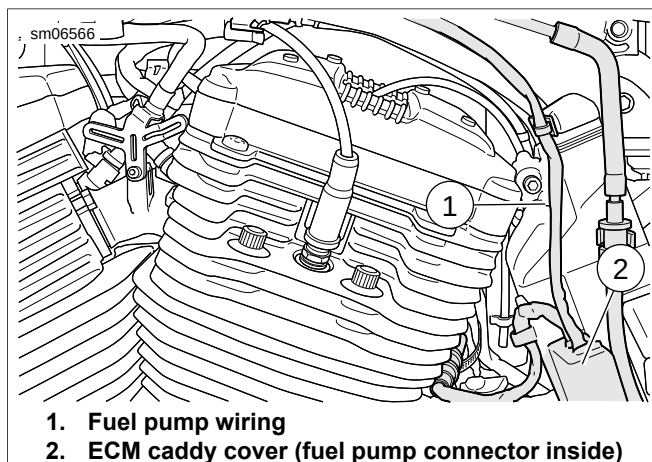

Figure 4-6. Fuel Pump Connector: XL Models
- b. See Figure 4-6. Remove fuel pump connector from ECM caddy cover (2).